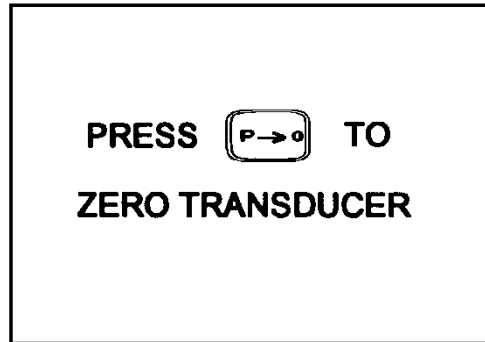

Figure 25
- 14.4.2.4 Verify that the display changes to "PRESS P→O TO ZERO TRANSDUCER" per Figure 25.